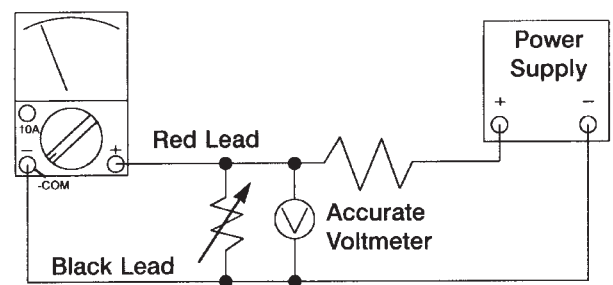

Figure 2
2. Obtain a voltage source of 0.4V as measured by an accurate voltmeter. The circuit of Figure 2 will work fine.
4. Connect the test leads as shown in Figure 2.
No DC voltage reading Refer to Figure 2 for a better understanding of how the meter works.	<ol style="list-style-type: none"> <li>1. Check for open fuse.</li> <li>2. Check resistors R1 - R8, R13 for correct values and good solder connections.</li> <li>3. Check that the PC board is seated properly and that the three board clamps are engaged.</li> <li>4. Check the meter movement. Unsolder the red wire from the meter movement to the PC board. Place a 75k<math>\Omega</math> resistor between the red wire and the positive side of a 1.5V battery. Connect the negative side of the battery to the black wire from the meter movement. The meter should read a little over half scale.</li> </ol>